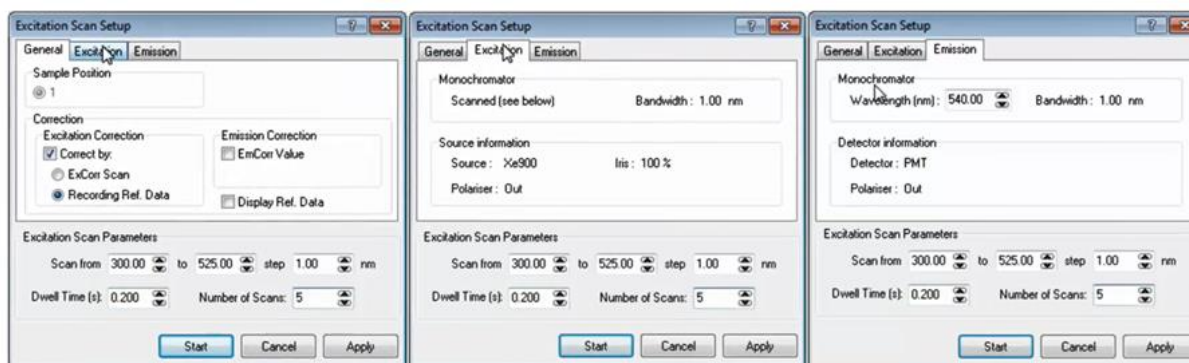

Figure 4. Excitation Scan Setup Window.
***Note:** During a steady-state excitation scan, a constant emission wavelength is monitored to determine CPS produced as the excitation wavelength is varied (See **Figure 4**).